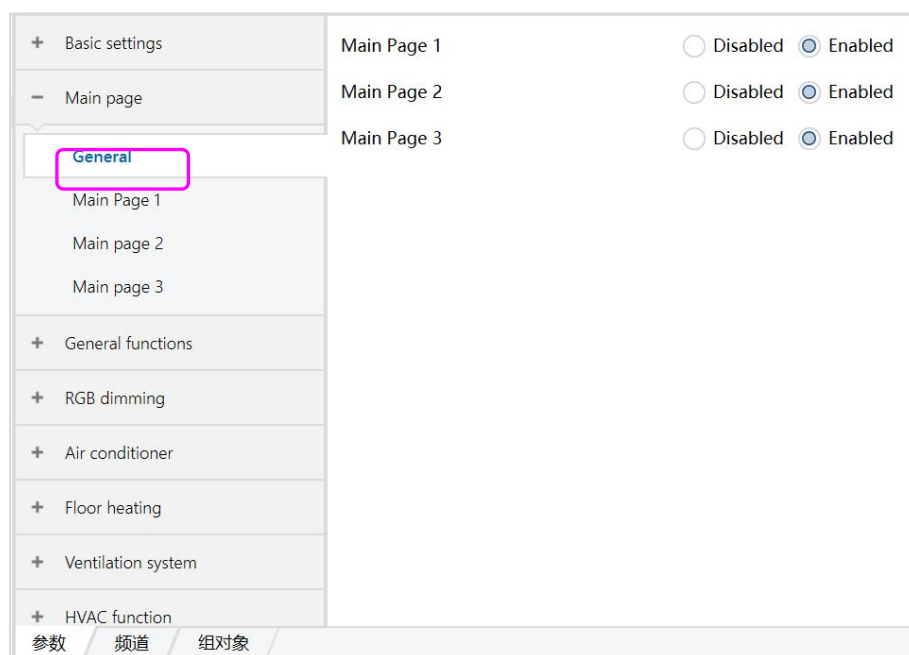

Figure 6.2.1
- (1) Click the option in the red box below to set the relevant parameters, as shown in Figure 6.2.1